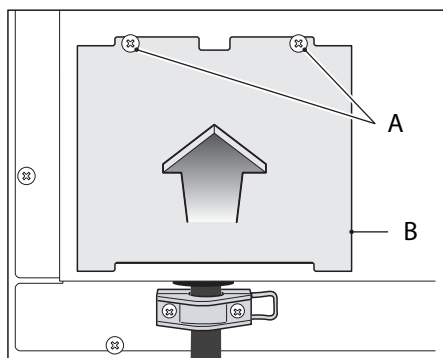

Fig. 7
- Unscrew the screws "A" securing the cover plate "B" behind the oven (Fig. 7).